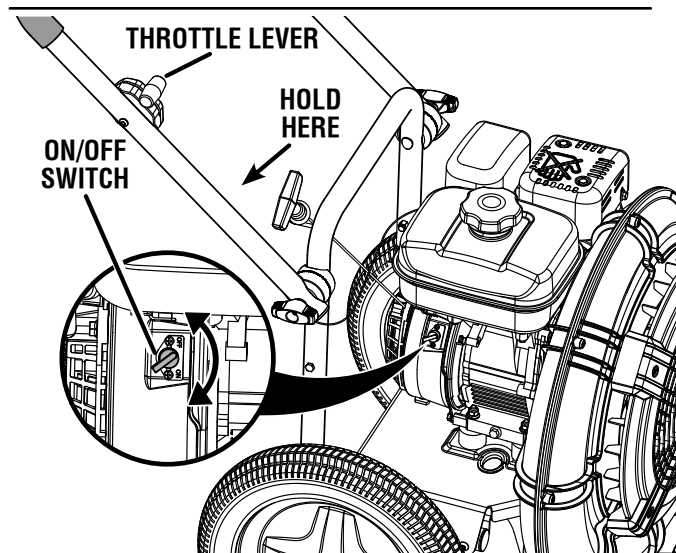

FIGURE 5
- Hold the blower securely by grasping the handle below the throttle lever (see figure 5).